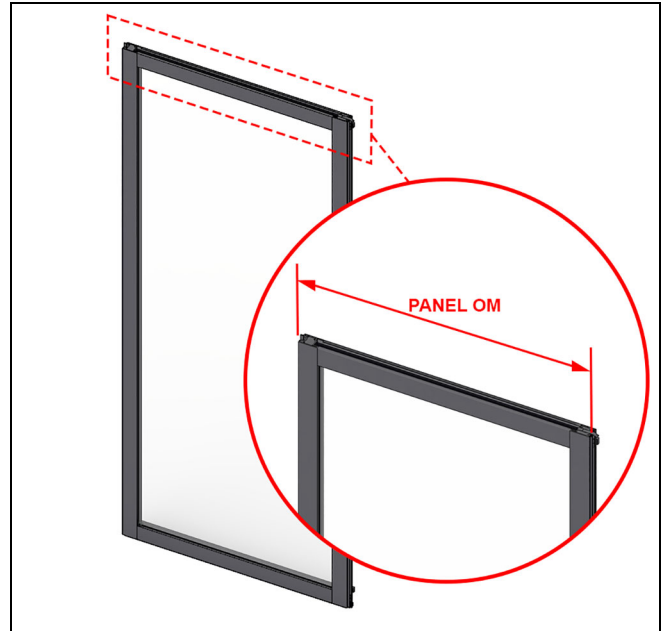

Figure 91
1. Measure the (H) stationary panel OM. Transfer that measurement to the interior track of the head jamb and center the top stationary bracket at that distance. See Figure 91.